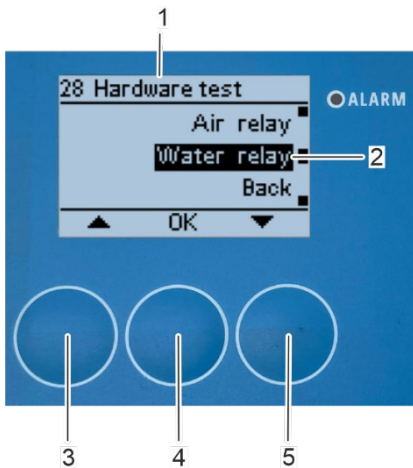

Fig. 150: Open submenu "water relay"
⇒ The "28 Hardware test" submenu (Fig. 150/1) appears on the display again, the water relay closes and water flows out of the high-pressure hot water nozzle.
5. After checking the water relay, open the "Water relay" submenu (Fig. 150/2) again with [OK] (Fig. 150/4).